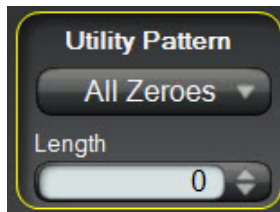

Figure 72. All zeroes pattern
4. Click on the **All Zeroes** button to insert a pattern consisting of logic zeroes. The **Length** field defines the total bit length of the pattern. Refer to Figure 72.